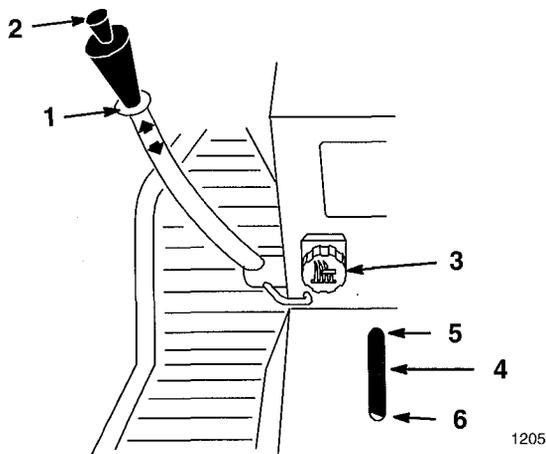

Figure 26
The attachment lift lever (Fig. 26) is used to manually raise and lower attachments.
The Dial-A-Height control (Fig. 26) is used to limit the downward travel of the attachment. The Dial-A-Height knob is rotated to change the location of this stop, up or down.
1. Raise the attachment lift: Refer to Raising Attachments. In the raised position the Dial-A-Height knob (Fig. 26) can be rotated to change the stop location. Turn clockwise to raise and counterclockwise to lower the height of the attachment.
2. The Dial-A-Height indicator (Fig. 26) will show the change, high to low, in attachment lift height as adjustment is made.